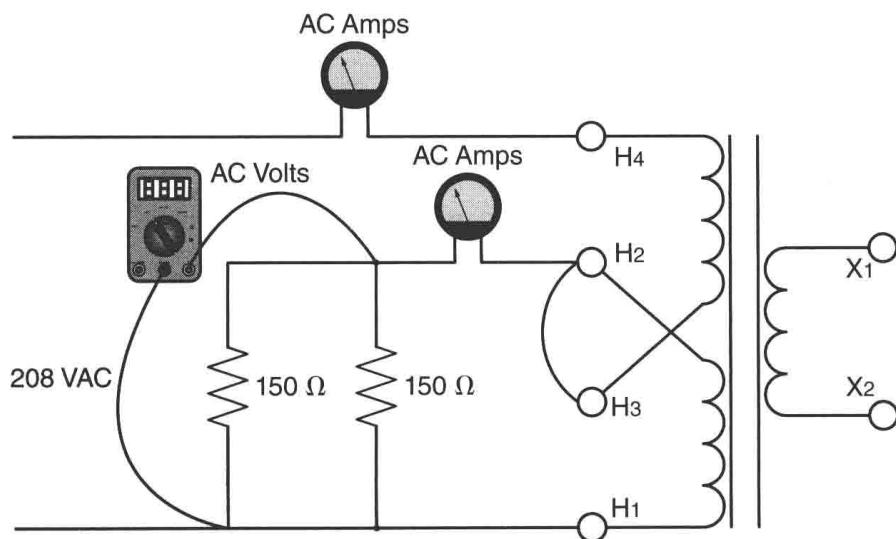

Figure 22-8 Adding load to the autotransformer.
12. Connect a second 150-ohm resistor in parallel with the first as shown in Figure 22-8. This should provide a total resistance of 75 ohms ($150/2$). Calculate the secondary current and primary current.